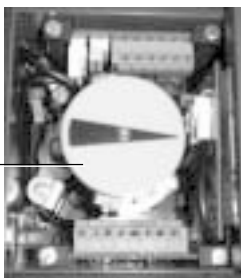

Fig. 14
2.4.4 On completion of setting **PF1** and **PF2** switches refit the travel indicator disc, washer and domed nut (refer to Fig. 14).